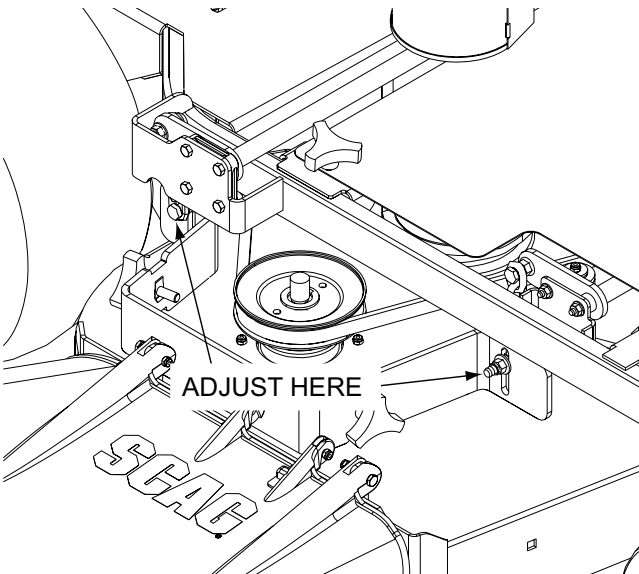

Figure 6-8. Cutter Deck Height Adjustment
3. Loosen the elastic stop nuts securing the hanger chains to the front and rear of the cutter deck on both sides. See Figure 6-8.